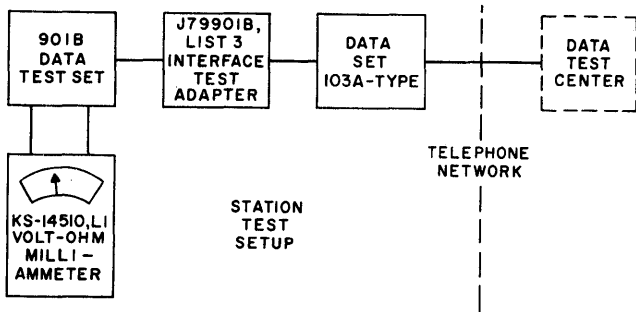

Fig. 3 — Interface Test, Block Diagram
**4.03** A block diagram illustrating the equipment set up for the interface test is shown in Fig. 3.